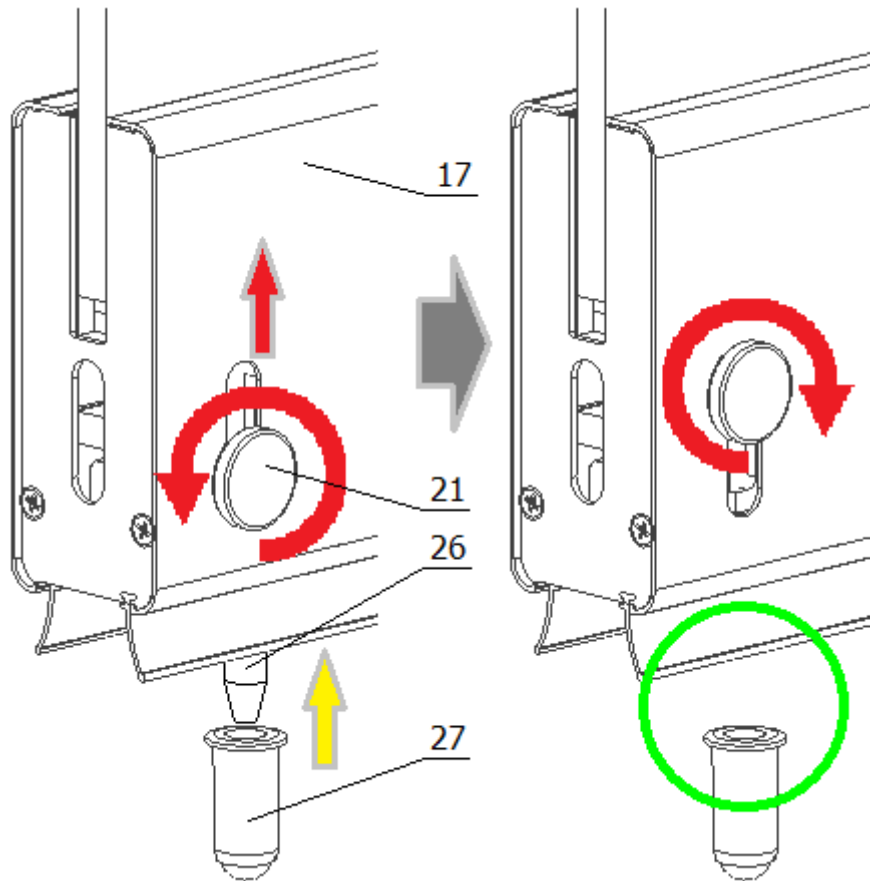

Fig.15 Unlocking the door panel from the floor (round arrow: direction of turning the handle - loosen ONLY!; red arrow: move upwards the loosened handle)
3. To unlock the lower profile of the door panel (17) from the floor where the anti-dust seat (27) is located by loosening the previously-tightened handle (21), as indicated by the red arrows (Fig. 15) in the lower hinge (21), so that the door panel can travel in the track. By moving the handle (21) upwards, the rod (26) will retract.